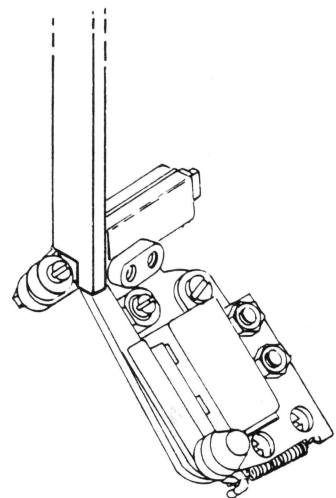

FIGURE 15
2. Insert the slot at the #3 end of the combo gauge between rear stop and armature (see Figure 15).